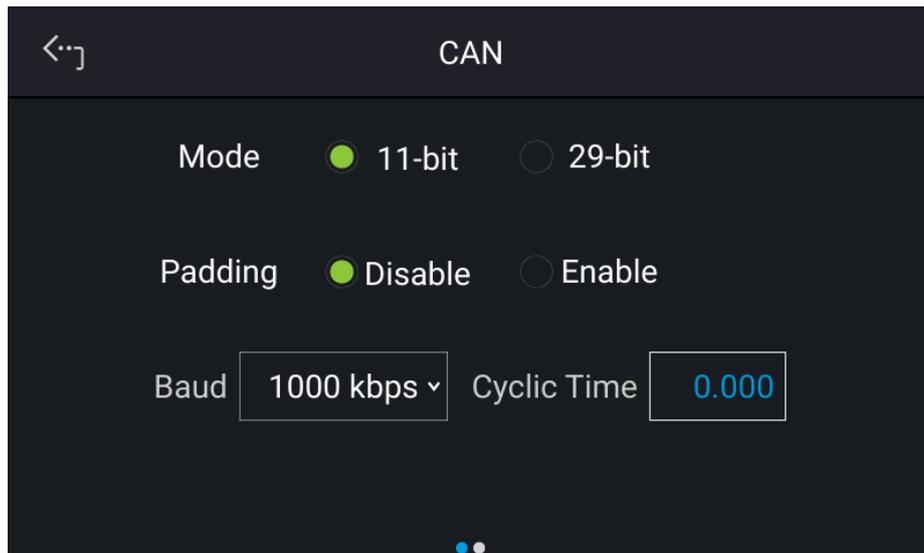
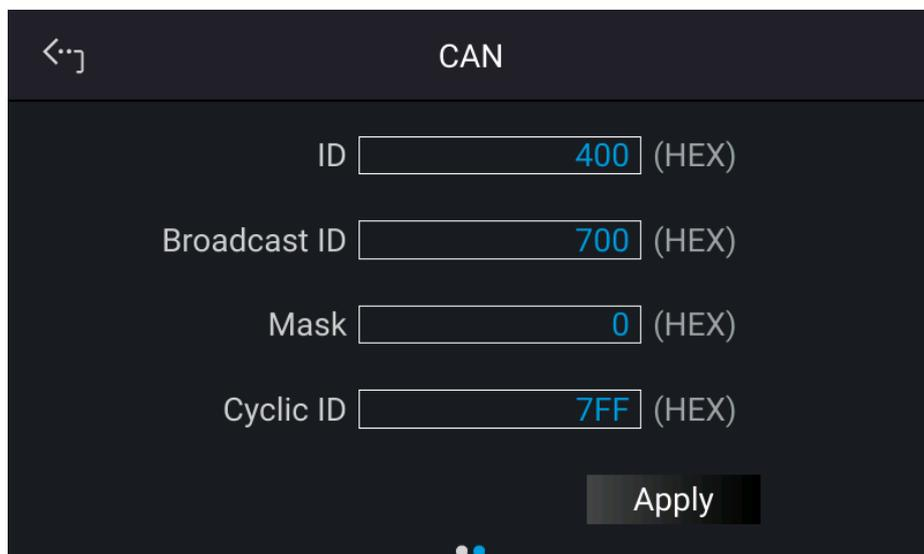

Figure 3-36
Figure 3-37
1. In the “Interface” page, select CAN as the screen shows in Figure 3-36 and Figure 3-37.